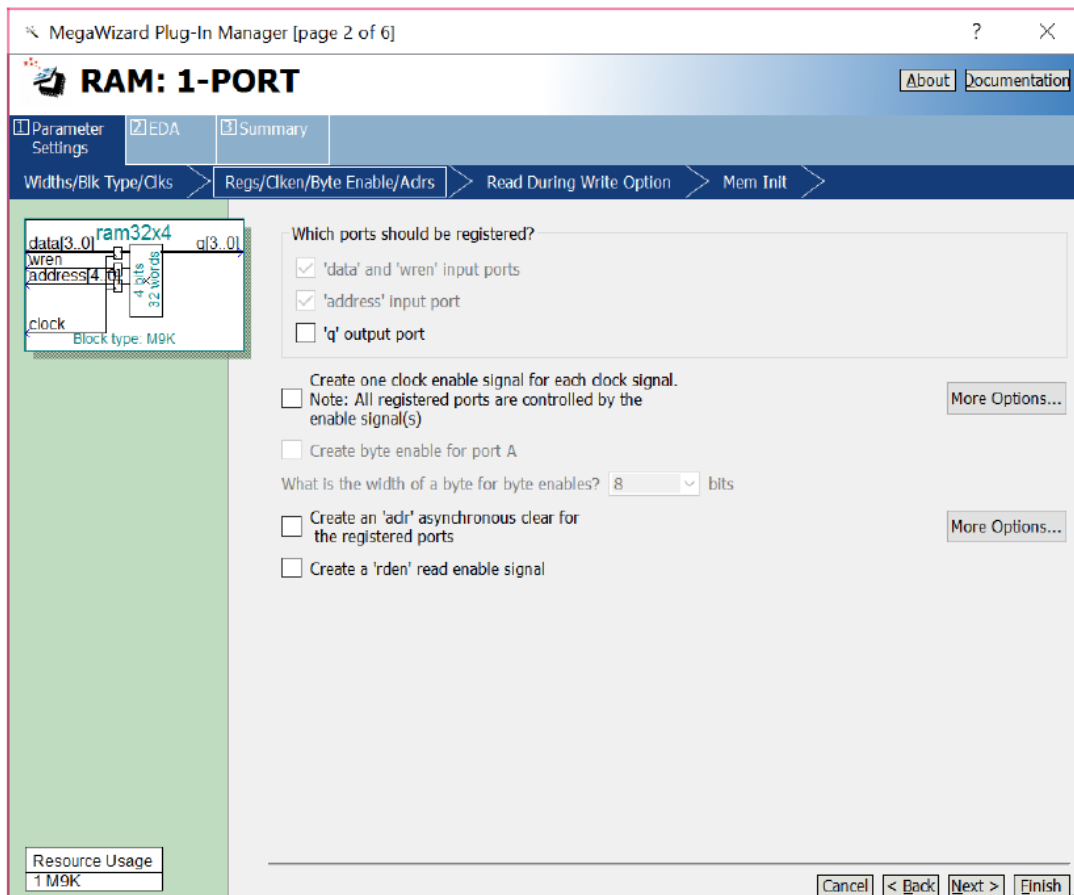

Figure 3 Configuring the Input and Outputs
3. Select M10K memory if you are using the Cyclone V, which we are. Also on this screen accept the default setting to use a single clock for the memory's registers, and then advance to the page shown in Figure 3. On this page deselect the setting called 'q' output port under the category Which ports should be registered? This setting creates a RAM module that matches the structure in Figure 1b, with registered input ports and unregistered output ports. Accept defaults for the rest of the settings in the Wizard, and click the Finish button to exit from this tool. Examine the ram32x4.vhd VHDL file which defines the following subcircuit: